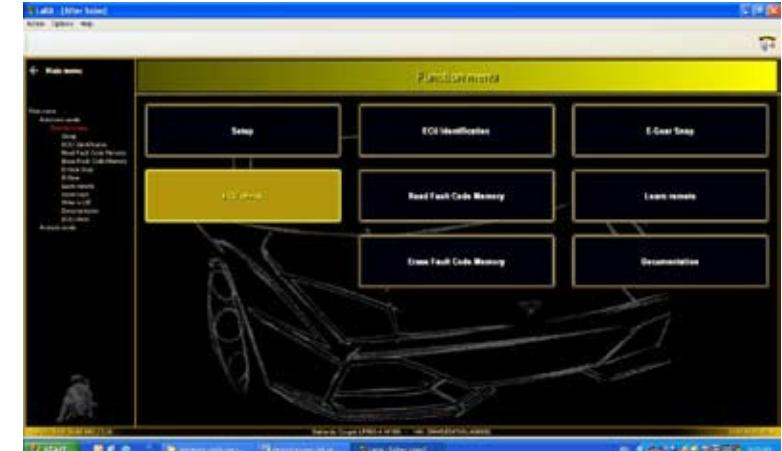

Fig.103
1. Select “ECU check” (Fig.103) from the “Menu Functions” screen (Automatic mode).